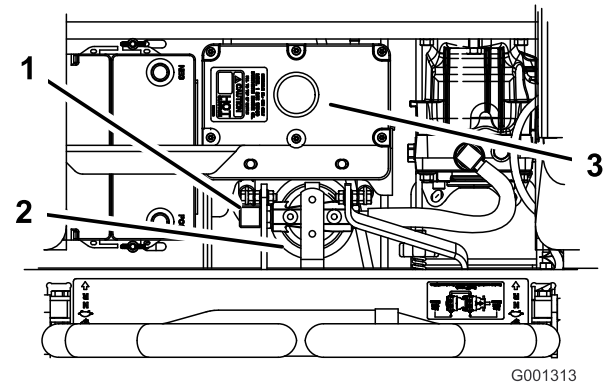

Figure 67
- Remove the righthand hydraulic line that comes into the adapter (Figure 67).
- Install the righthand hydraulic line to the adapter (Figure 67).